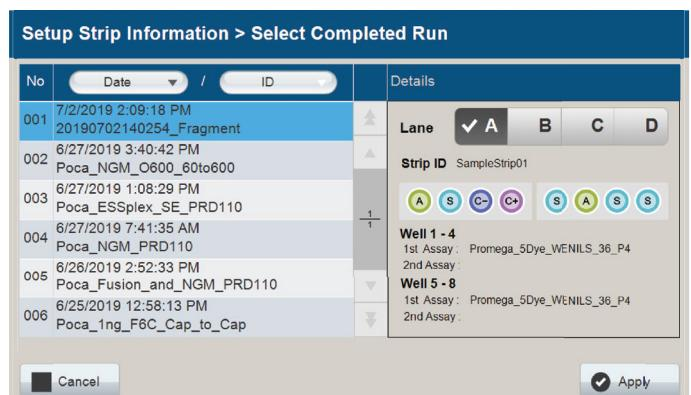

Figure 72. 'Select Completed Run' screen.
1. Select **Load Settings** at the bottom of the 'Setup Strip Information' screen (Figure 71) to open the 'Select Completed Run' screen (Figure 72).
2. Select the desired run from the list on the left side of the screen (Figure 72), and then select **Apply**. This takes you back to the 'Setup Strip Information' screen showing the information from the selected run.
- b. Ensure that the Run ID you created in Section 5.3 is different from the one selected from the list of completed runs in Figure 72.